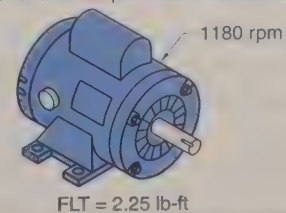

Figure 13-23. Motor power is rated in horsepower and watts.
Electrical power is rated in horsepower or watts. *Horsepower (HP)* is a unit of power equal to 746 W or 33,000 lb-ft per min (550 lb-ft per sec). A *watt (W)* is a unit of measure equal to the power produced by a current of 1 A across a potential difference of 1 V. A watt is $\frac{1}{746}$ of 1 HP. The watt is the base unit of electrical power. Motor power is rated in horsepower and watts. See Figure 13-23.